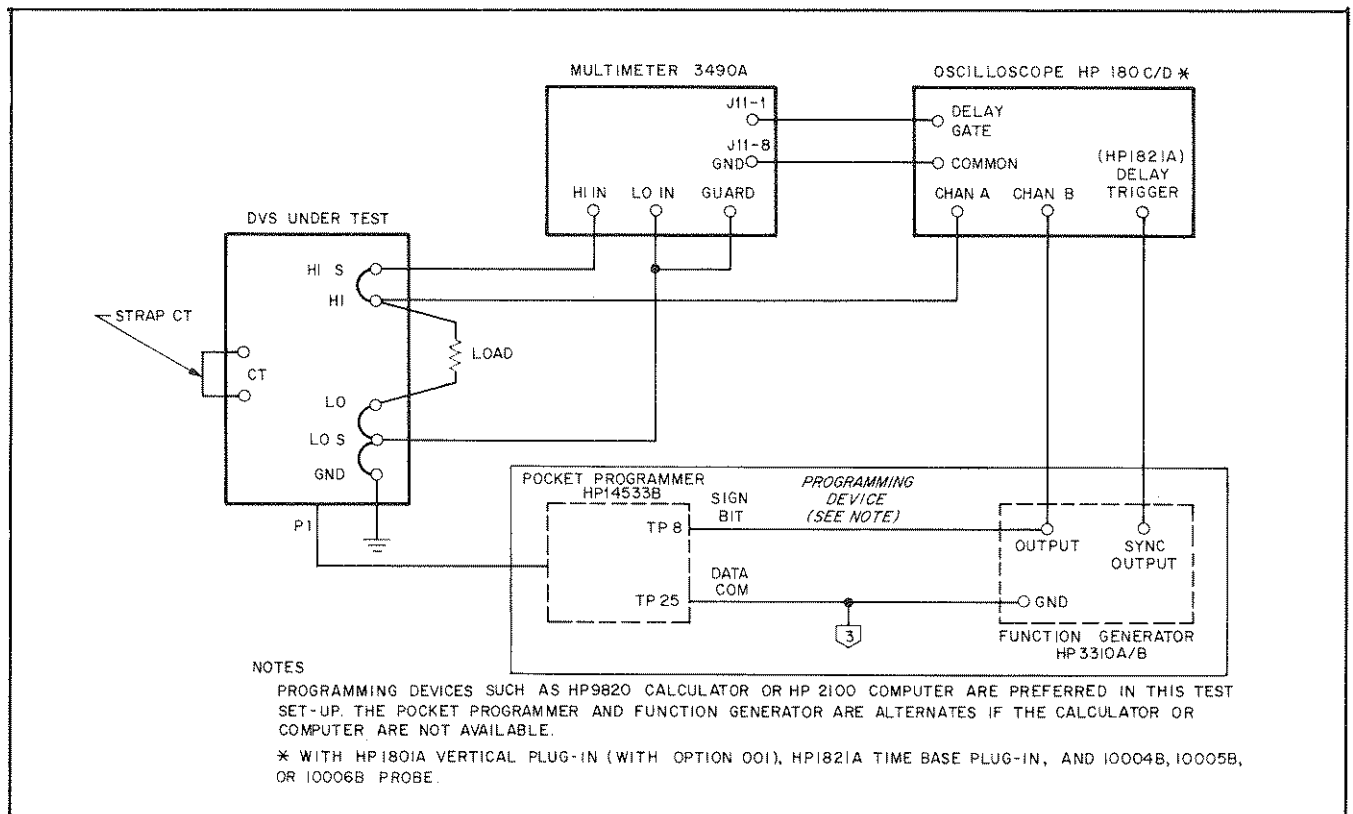
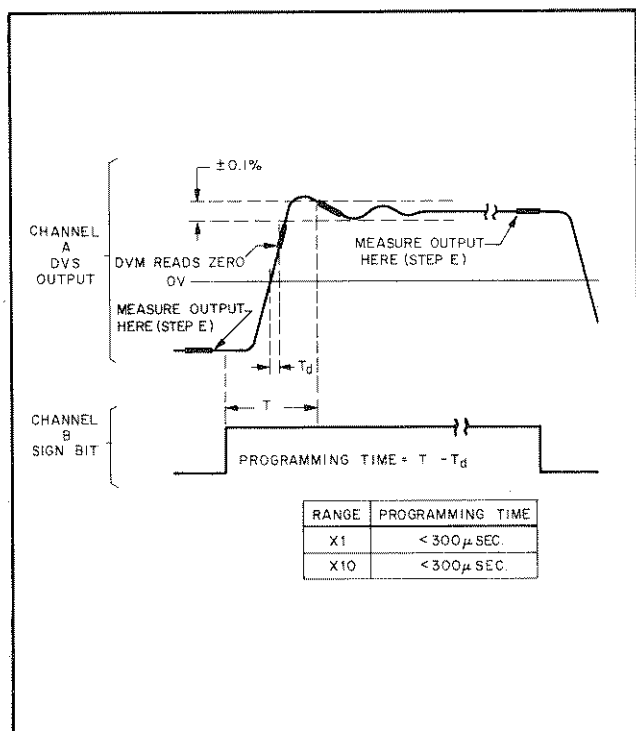

Figure 5-2. Programming Time Test Setup
Figure 5-3. Programming Time Waveforms
5-24 Equal positive and negative output voltages cannot be obtained by simple switching the position of the polarity switch; negative numbers must be programmed in the 2's complement form. For this reason, a computer or calculator would be the easiest means to obtain the equal positive and negative numbers necessary to perform this test. To perform this test for "worst case" result, use the test setup in Figure 5-2 employing the computer or calculator recommended. Program the computer or calculator so that it will program the DVS between +16.3835 and -16.384 volts and between +100 and -100 volts. The observed waveform should be within the tolerance of Figure 5-3. If the computer or calculator is not available, use the Pocket Programmer and Function Generator (see Figure 5-2) as the programming device and proceed as follows:
e. Measure the voltage just prior to the waveform transitions (see Figure 5-3). Voltage reading should be within 0.1% of ΔV_{OUT} .